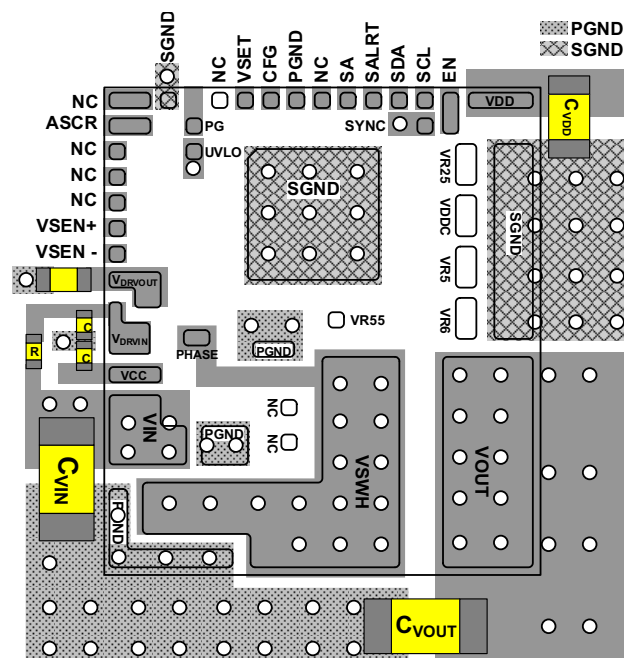

Figure 27. Recommended Layout - Top PCB Layer
- For $V_{DD} > 6V$, the recommended PCB layout is shown in Figure 27. Leave V25, V_{DDC}, VR5, and VR6 as “No Connect (NC)”.